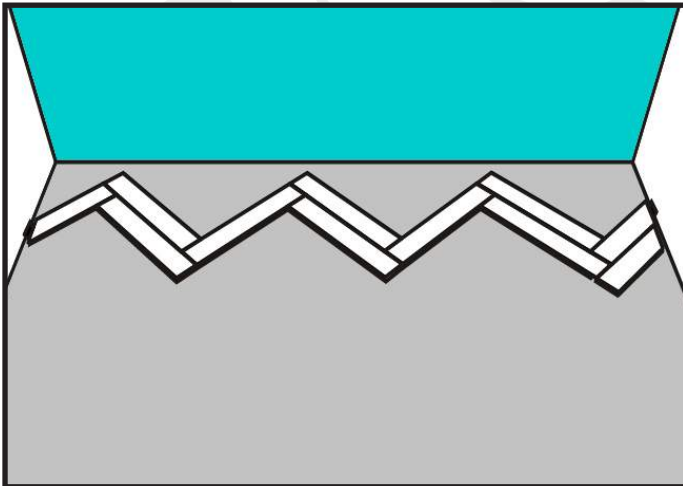

Figure 7
Step 6: From left to right, continue installing the A panels in the second row (**Figure 7**).